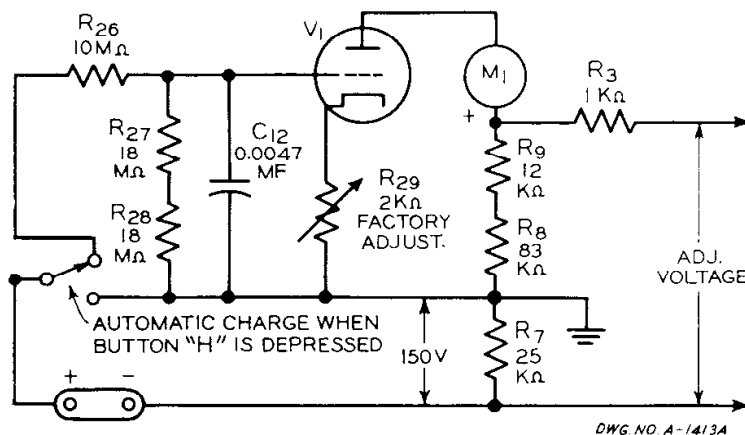

FIGURE 4
3.1 The insulation resistance test is made only on electrostatic capacitors such as paper, mica, ceramic, etc. (Electrolytic capacitors are tested for leakage current as in section 4). The test circuit is shown in Figure 4. Passage of current thru the capacitor or other circuit element under test causes an increase in the negative bias on the grid of tube V_1 and a consequent decrease in plate current. The plate current meter is calibrated directly in megohms.